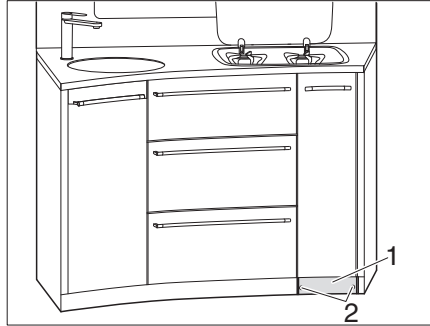

Fig. 118 Unscrewing skirting board
- Unscrew 2 screws (Fig. 118,2) from the skirting board (Fig. 118,1).
- Remove the skirting board (Fig. 118,1).